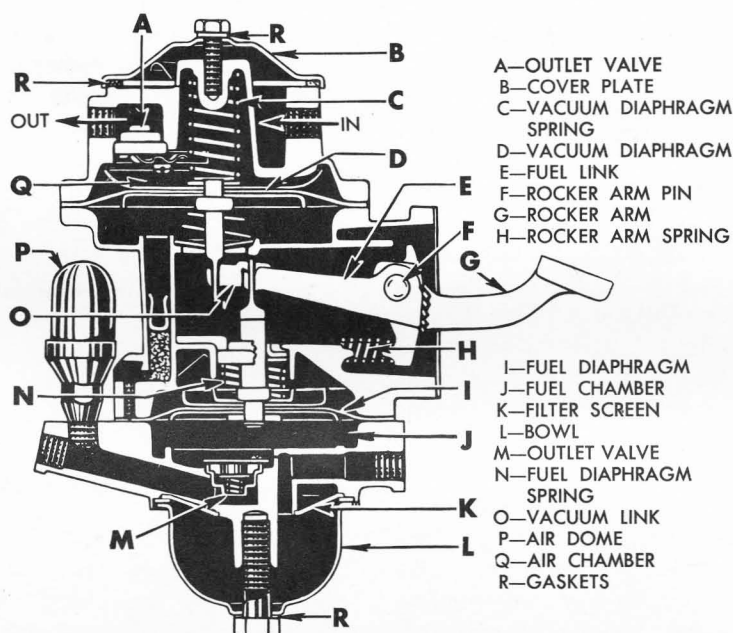

Figure 3-25—Combination Fuel and Vacuum Pump—Sectional View
shaft which actuates the pump rocker arm. The single rocker arm actuates both the fuel and the vacuum sections of the pump through separate links which permit each section to function independently of the other section. See figure 3-25.
The pump rocker arm (G) is actuated by an eccentric on engine camshaft. The arm is held in contact with the eccentric by the rocker arm spring (H). Movement of rocker arm is transmitted to the fuel link (E) which pulls the fuel diaphragm (I) upward from the fuel chamber (J) against pressure of the diaphragm spring (N). See figure 3-25.
The pump rocker arm (G) is actuated by an eccentric on engine camshaft. The arm is held in contact with the eccentric by the rocker arm spring (H). Movement of rocker arm is transmitted to the vacuum link (O) which pushes vacuum diaphragm (D) upward into air chamber (Q) against pressure of the diaphragm spring (C). See figure 3-25.
3. Remove only two cover screws from opposite sides of the cover, and substitute for them two No. 10-32 x 1½" fillister head screws. Turn the two long screws all the way down, and then remove the balance of the short screws. Alternately back off the two long screws, a few turns at a time, until the force of the heavy vacuum diaphragm spring is no longer effective. If cover and body stick together, rap cover with screwdriver handle after backing off long screws a few turns; do not pry between the flanges. Remove long screws, vacuum cover assembly, diaphragm spring and spring retainer. See figure 3-25.